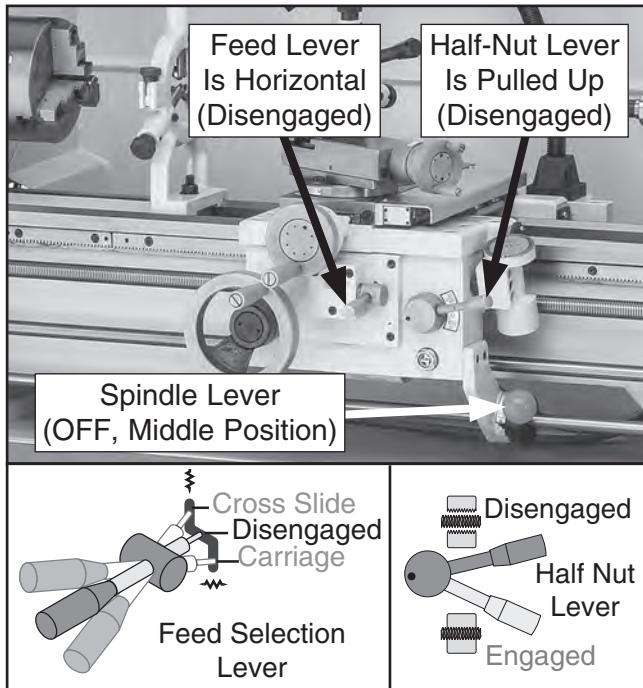
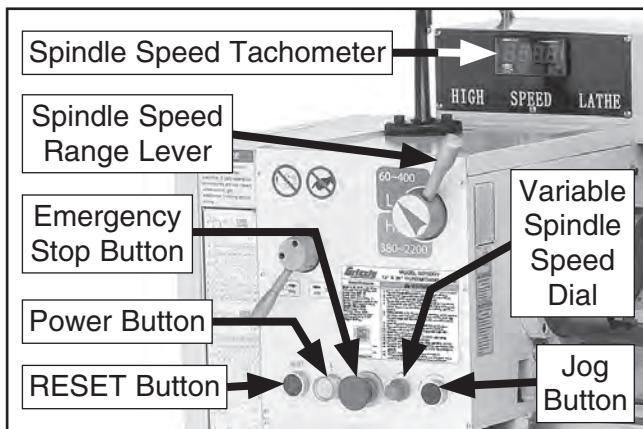

Figure 22. Disengaging carriage components.
Figure 23. Spindle speed and operation controls.
- To ensure carriage components do not unexpectedly move during following steps, disengage half-nut lever and feed selection lever (see **Figure 22**).
- Set spindle lever in OFF (middle) position (see **Figure 22**).
- Rotate Emergency Stop button clockwise so it pops out (see **Figure 23**).
- Set spindle speed range lever in Low (L) range (see **Figure 23**).
- Turn variable spindle speed dial fully counter-clockwise so spindle will turn at lowest speed at startup (see **Figure 23**).
- Push Power button (see **Figure 23**), move spindle lever (see **Figure 22**) down to start spindle rotation, then turn variable spindle-speed dial (see **Figure 23**) until spindle speed tachometer indicates 70 RPM. Top of chuck should turn down and toward the front of the lathe.
- Press power button, then press and briefly hold the jog button (see **Figure 23**), then release it. The spindle should rotate when the jog button is pressed and come to a complete stop when released.